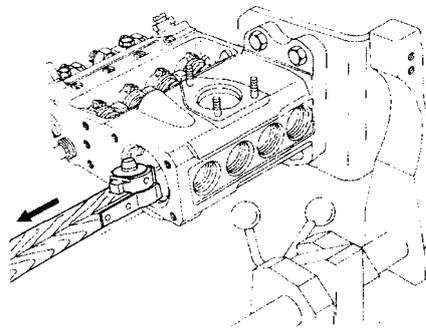

Figure 70 Removing the Tappet Assemblies
- y. Remove the tappet assemblies from the injection pump through the camshaft bore using the clamp (Table 3, Serial 27) (Figure 70).